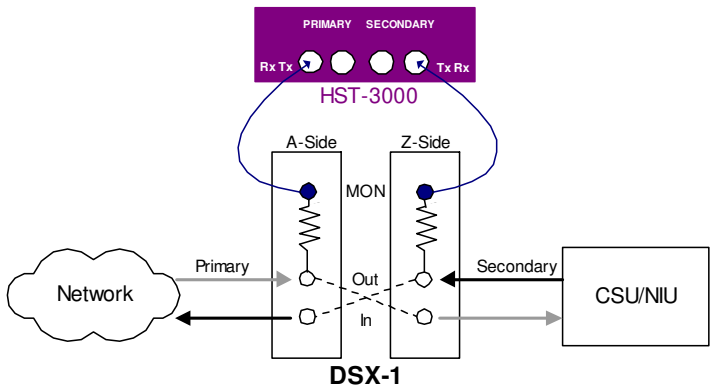

Figure 3 Monitor connections
- 8 Connect the HST-3000 to the test access point (see Figure 3):